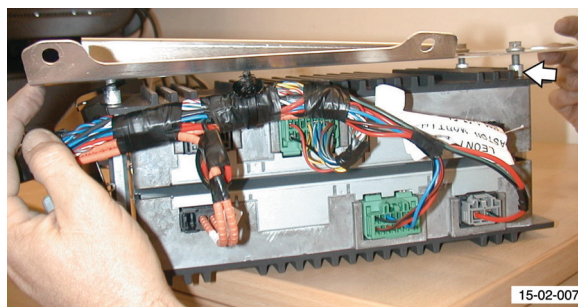

Fig. 4
13. Collect spacers between amplifier and mounting plate (see Fig. 4).